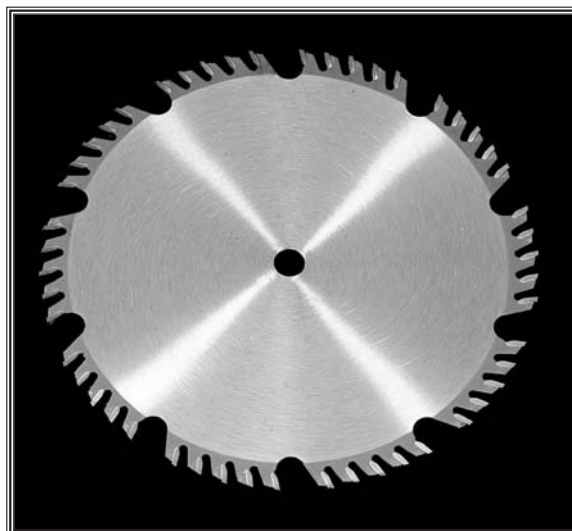

Figure 47. Combination blade.
- **Figure 47** shows an example of a combination blade. Combination blades are designed to perform both ripping and crosscutting duties. The blades have enough teeth to crosscut smoothly like a crosscutting blade and the large gullets to clear sawdust quickly like a rip blade. Drawbacks to this type of blade are that they do not perform either function as well as a dedicated rip or crosscut blade.